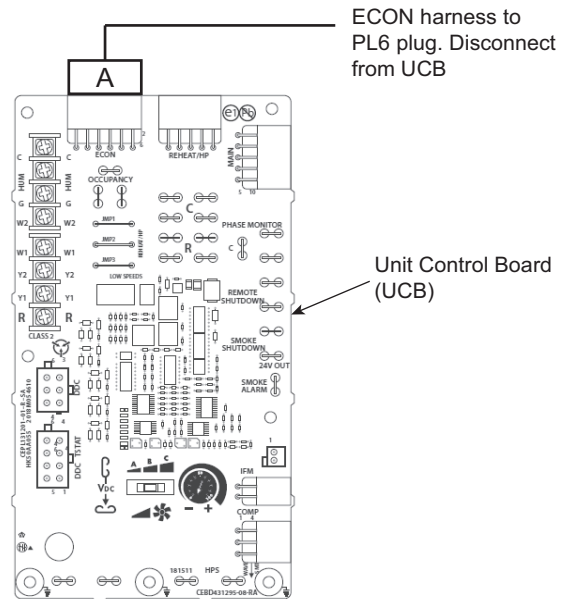

Fig. 34 — Connection Before Adapters Installed
- Disconnect the standard unit “ECON” harness plug (A) from the unit control board (UCB). (See Fig. 34.)